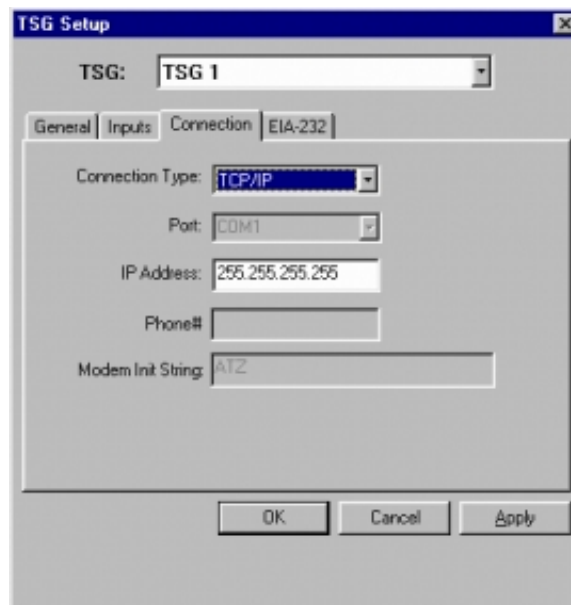

Figure 2- 29. TSG Setup dialog box
- *Connection*: Use the options in the *Connection* tab of the *TSG Setup* dialog box (Figure 2- 29) to define which communications port to connect to the selected TSG. Specify the a connection type, port, IP address, phone number, and modem initialization string for the selected TSG.